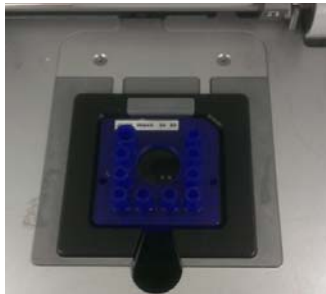

Figure 6. Chip in the LabChip GXII Touch Instrument
- 4 Insert the chip into the LabChip GXII Touch instrument (Figure 6) and close the chip door securely. (For GXII, release the latch, insert the chip, latch the chip cartridge, and push in the cartridge.)